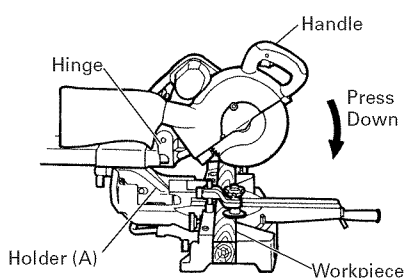

Fig. 28
Slide the hinge down to holder (A), then tighten the slide securing knob (see Fig. 2) as indicated in Fig. 28. Lower the handle to cut the workpiece. Using the power tool this way will permit cutting of workpieces of up to 3-11/32" (85mm) square.